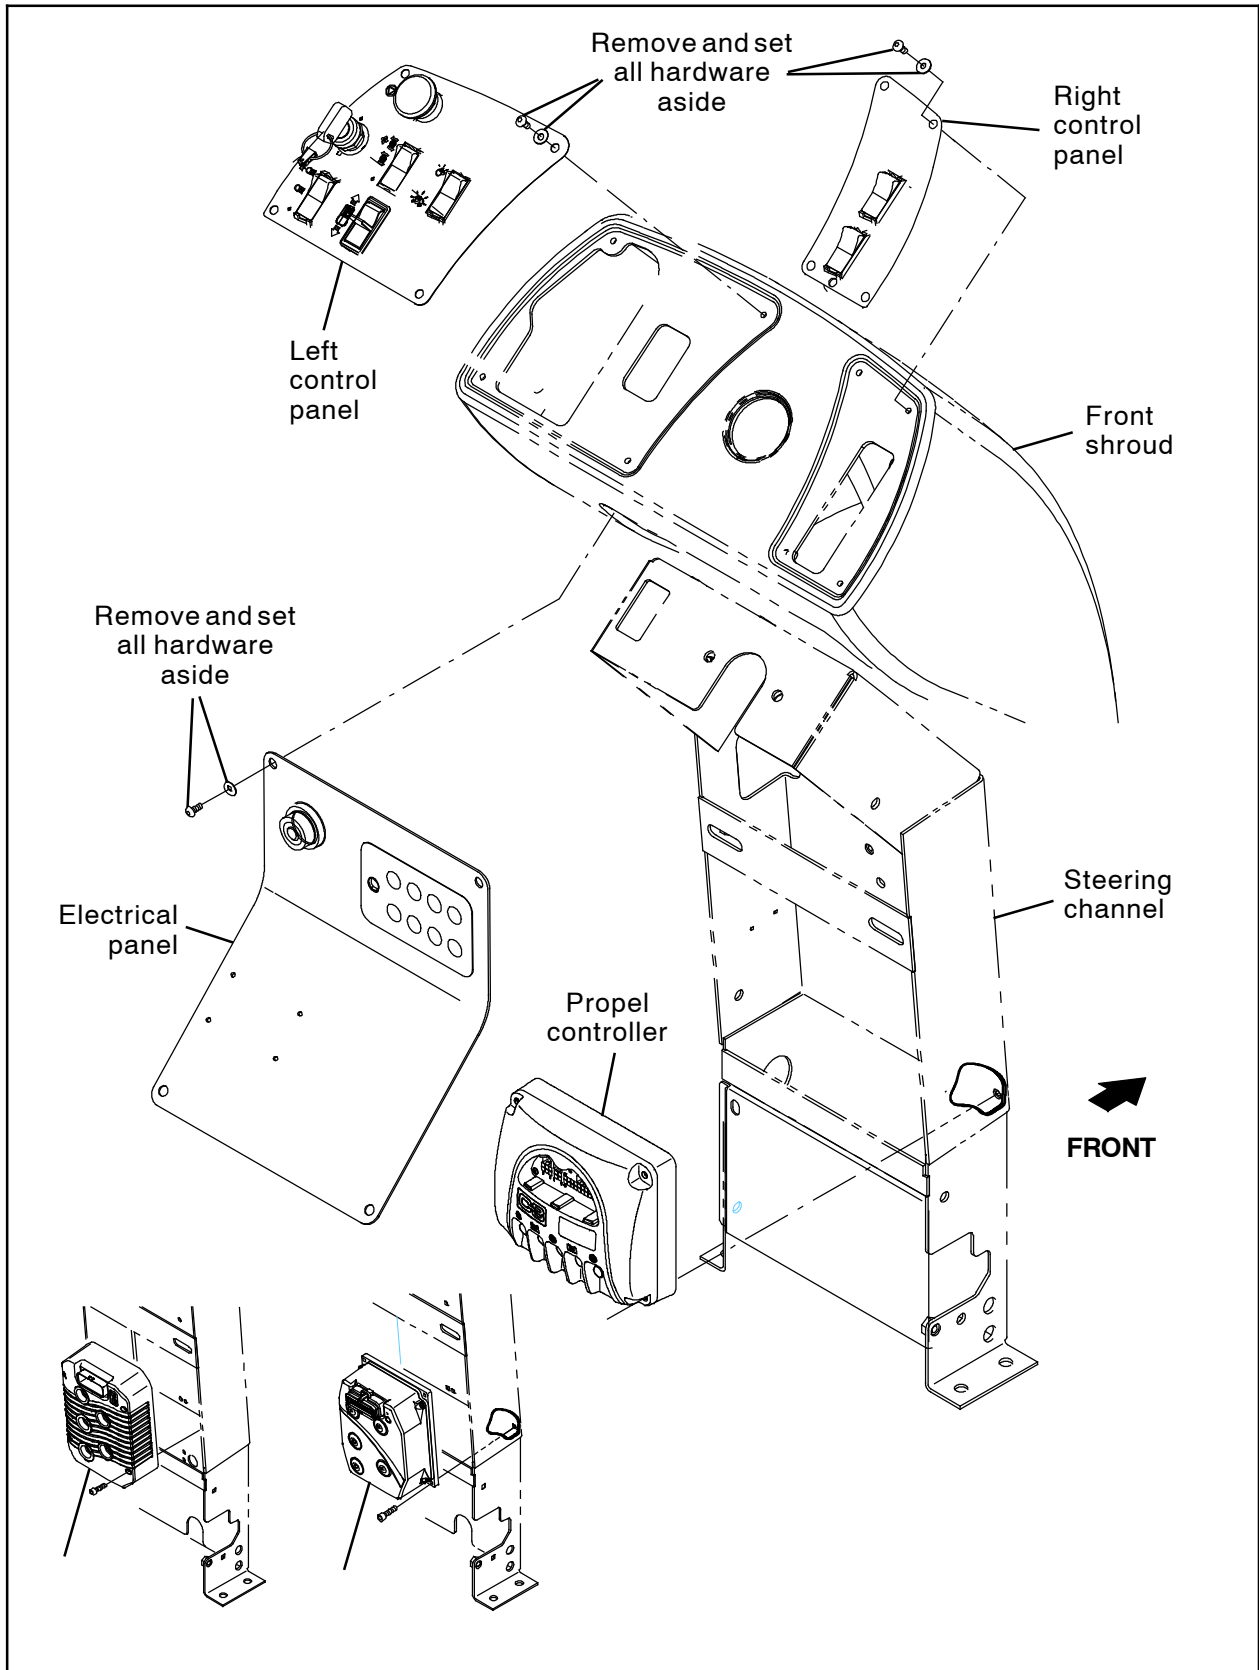

FIG. 1
2. Remove the hardware securing the electrical panel to the machine. Set the hardware aside. (Fig. 1)
3. Carefully pull the electrical panel from the front shroud. **Do Not** break any cable/wire connections when removing the panel. (Fig. 1)
4. Remove the hardware securing both the right control panel and left control panel to the front shroud. Set the hardware aside. (Fig. 1)
5. Carefully pull both the right control panel and the left control panel from the front shroud. **Do Not** break any cable/wire connections when removing either control panel. (Fig. 1)